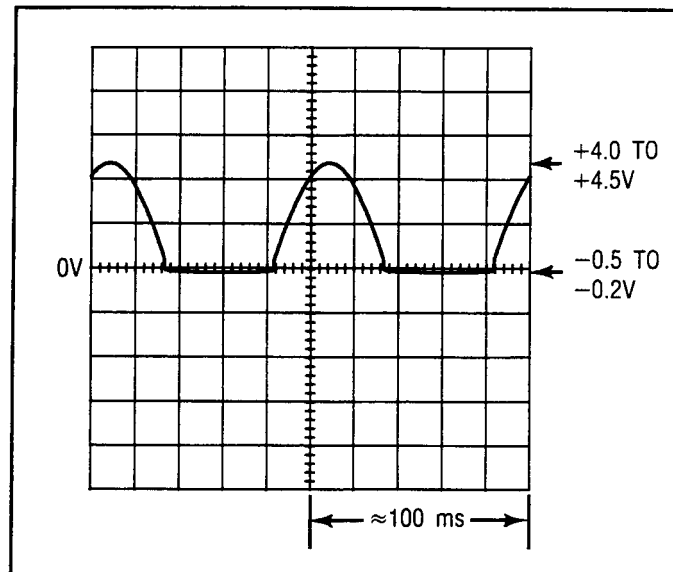

Figure 8B-34. Waveform at Pin 6 of U5,  $\sqrt{2}$  Step 3
3. Connect the oscilloscope to pin 6 of U5. The waveform should be as shown in Figure 8B-34. (Note: Excessive input capacitance of the oscilloscope may cause oscillation. Use a divide-by-ten probe.)